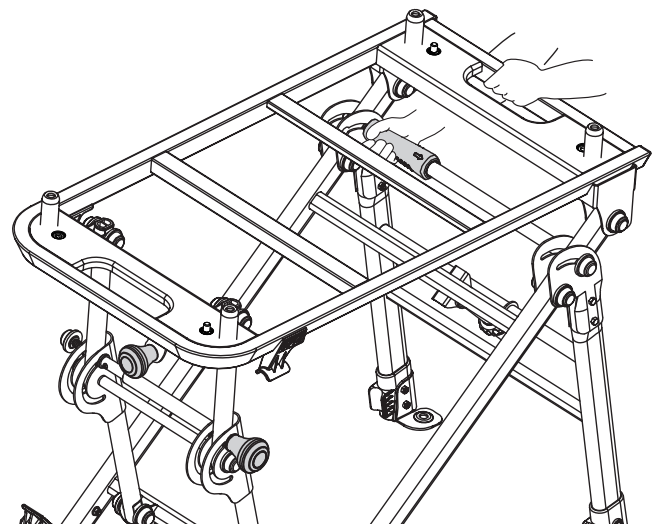

Fig. 7
4. On the opposite end of the stand, locate the handle and the orange lock sleeve on the crossbar, and note the arrow on the lock sleeve. Lift the handle and move the lock sleeve in the direction of the arrow on the sleeve. Allow the legs to fall (Fig. 7), and then release the sleeve. Hold the lift handle, and pull the lower crossbar until you hear the legs lock into place.